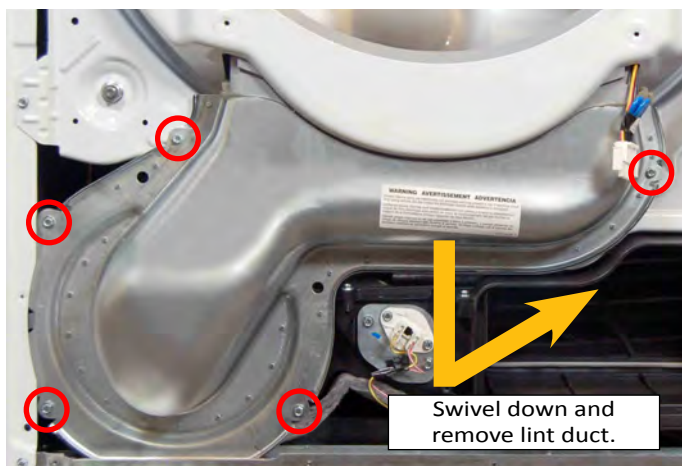

Figure 6
10. Remove the five (5) 1/4" hex-head screws from the lint duct as illustrated in Figure 6. Swivel the lint duct down from the bulkhead and remove.